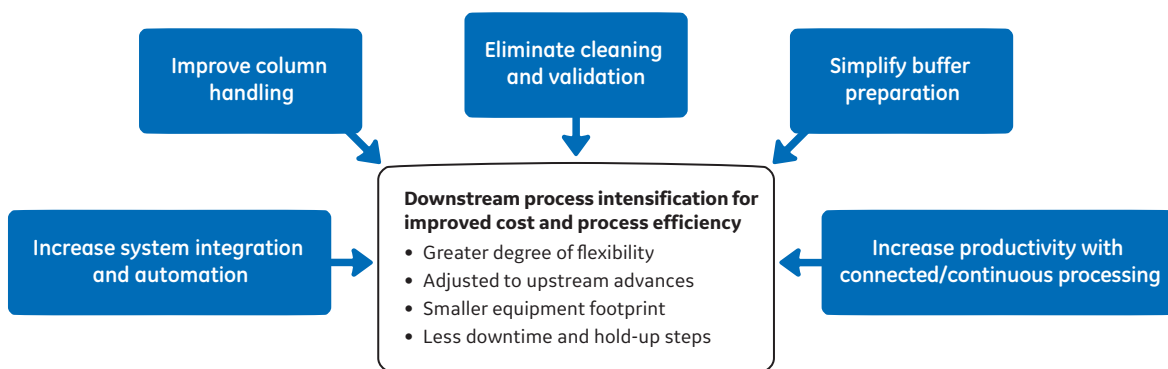

Fig 1. Solutions that can help achieve process intensification by overcoming traditional downstream bottlenecks.
In upstream bioprocessing, improvements in manufacturing processes have resulted in routine titer levels of three to five grams per liter (2). Downstream processing needs to match these advances in a cost-efficient way. There are already various process intensification solutions available that can help make this possible (Fig 1). These technologies can increase facility use and increase productivity and throughput.